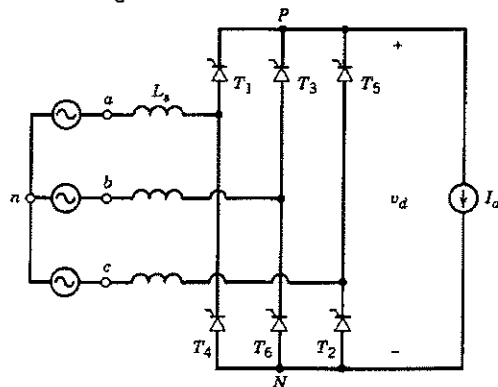

Figure 7.
7. In a three phase converter shown in Figure 7 $V_{LL}=460V$ at $60Hz$ and $L_s=25\mu H$. Calculate the commutation angle μ if $V_d=525V$ and $P_d=500kW$